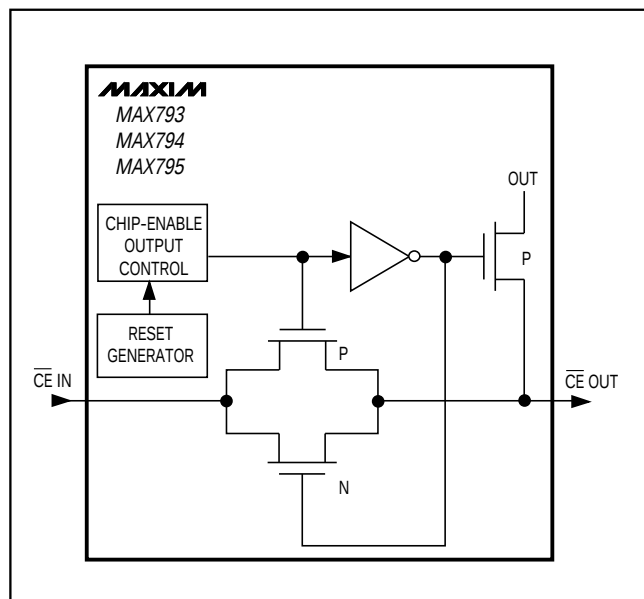

Figure 7. Chip-Enable Transmission Gate
Internal gating of chip-enable (CE) signals prevents erroneous data from corrupting CMOS RAM in the event of an undervoltage condition. The MAX793/MAX794/MAX795 use a series transmission gate from $\overline{CE}$ IN to $\overline{CE}$ OUT (Figure 7). During normal operation (reset not asserted), the CE transmission gate is enabled and passes all CE transitions. When reset is asserted, this path becomes disabled, preventing erroneous data from corrupting the CMOS RAM. The short CE propagation delay from $\overline{CE}$ IN to $\overline{CE}$ OUT enables these μP supervisors to be used with most μPs. If $\overline{CE}$ IN is low when reset asserts, $\overline{CE}$ OUT remains low for typically 10μs to permit completion of the current write cycle.